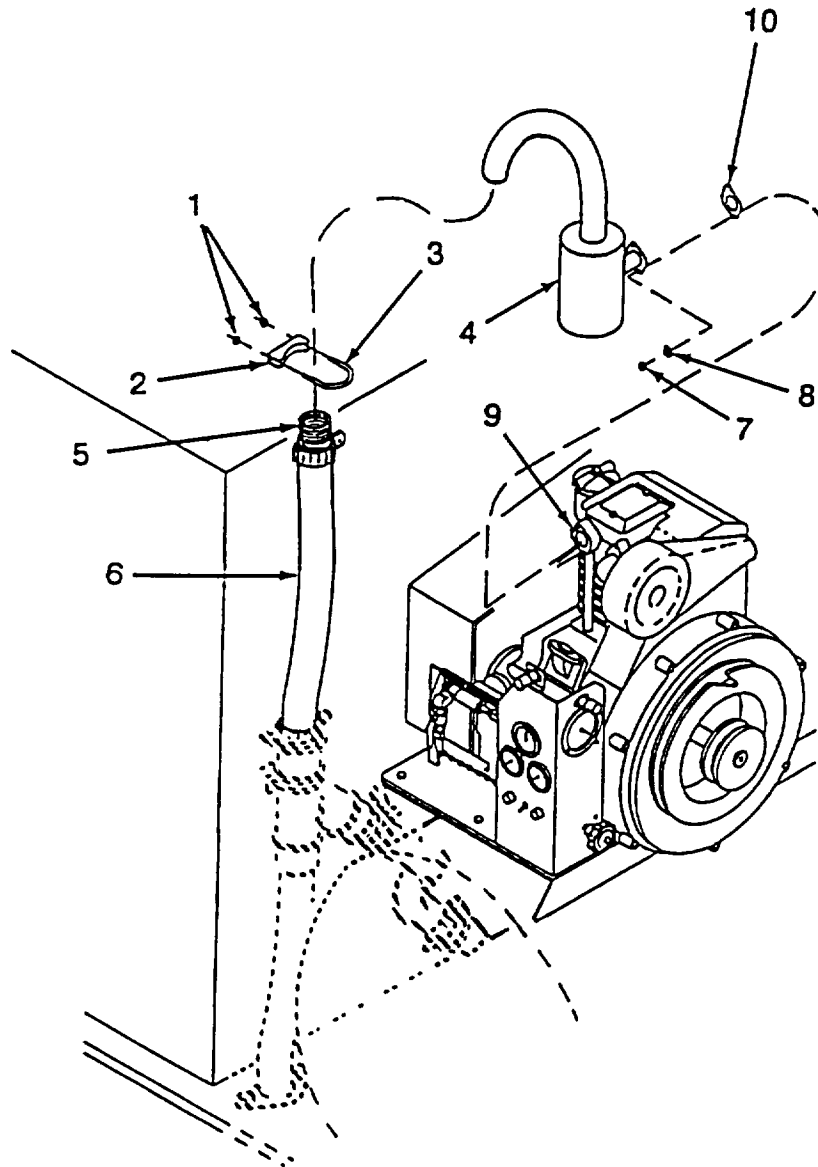

Figure 4-36. Exhaust System
(1) Removal. (Refer to Figure 4-36).
- (a) Remove two nuts (1), muffler bracket (2) and U-clamp (3) from muffler (4).
- (b) Remove interflex hoses (5) and fiberglass sleeving (6) from muffler (4).
- (c) Remove two nuts (7) and two lockwashers (8) from engine exhaust studs (9) holding muffler assembly (4) and gasket (10).
- (d) Remove muffler (4) and gasket (10). Discard gasket (10).
(2) Repair.